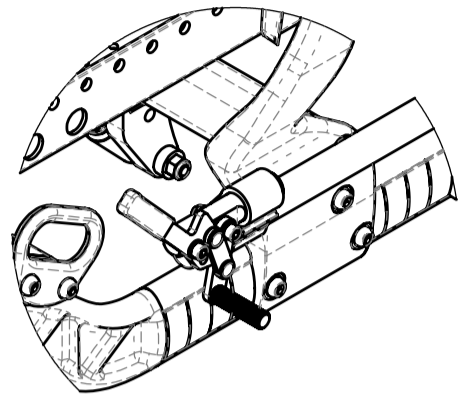

Figure 14.33: Pull to Lock Wheel Locks
2. To engage the pull to lock wheel lock (see Figure 14.33), pull the lever towards the wheel until it locks into place.